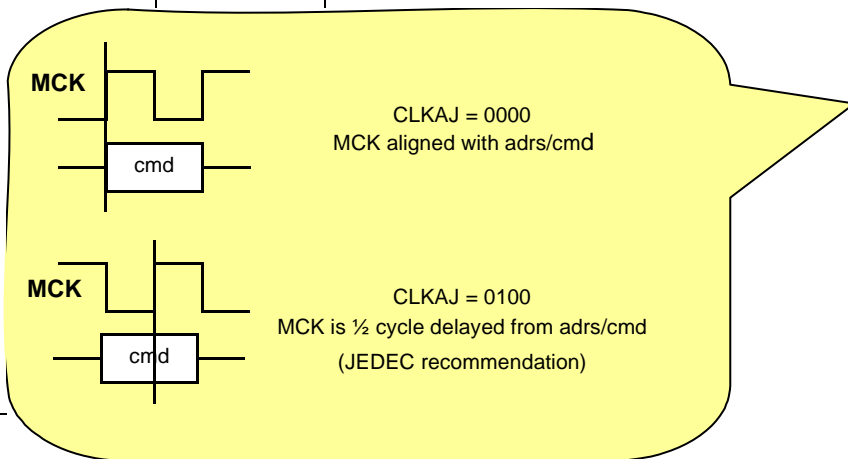

Figure 14. Effects of Clock Adjust Selections on Signals
- Clock Adjust DDR_SDRAM_CLK_CNTL[CLKAJ]. Set delay from address/command start timing to MCK rising edge. **Figure 14** how the selections in the programming model apply to clock adjustments.